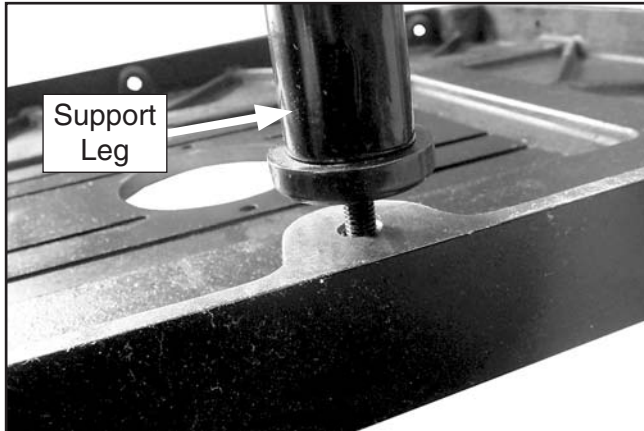

Figure 8. Support leg attached to the router table.
4. Thread the support leg onto the stud located on the bottom of the router table, as shown in **Figure 8**.